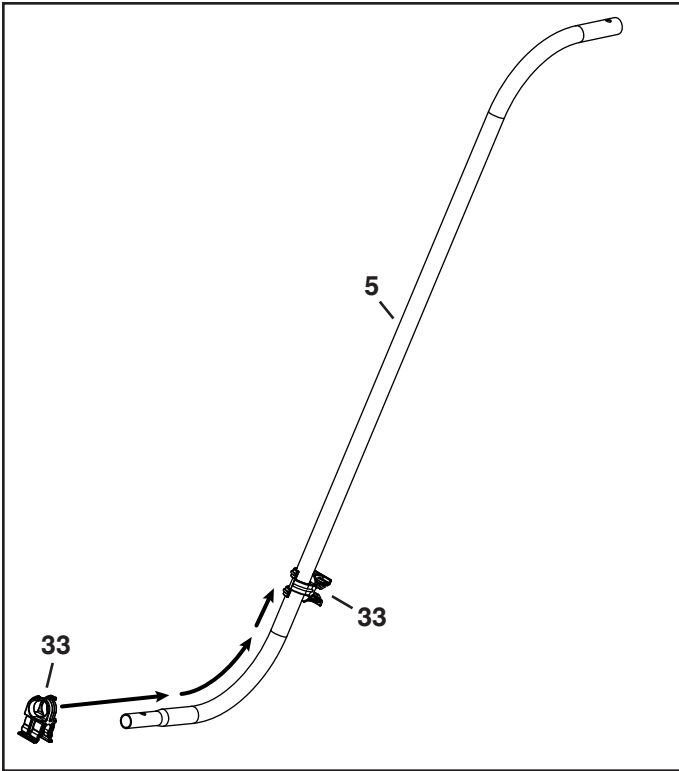

FIGURE 14
23. Slide the dump handle clip (33) over end of dump tube (5) until it is in the location shown in figure 14.